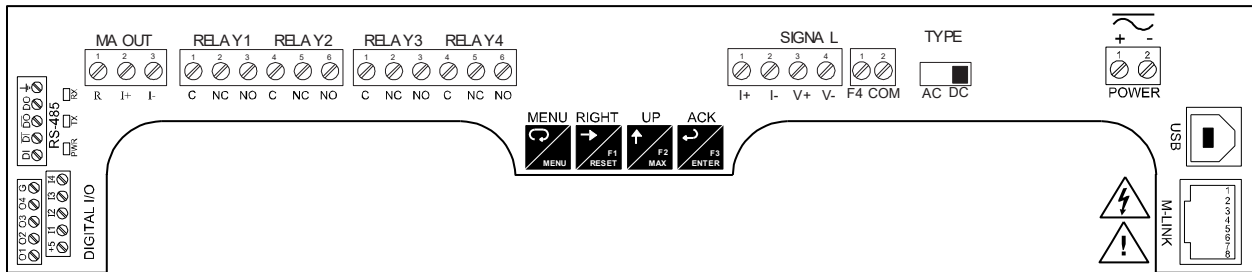

Figure 6. Connector Labeling for Fully Loaded PD2-6400
Power connections are made to a two-terminal connector labeled POWER on Figure 6 on page 12. The meter will operate regardless of DC polarity connection. The + and - symbols are only a suggested wiring convention.
Serial communications connection can be made to the onboard RS485 terminal block or USB connector shown in Figure 6. If RS232 is required, an RS485 to RS232 adapter (PDA7485) may be used. See Ordering Information on page 5 for additional information.
Relay connections are made to two six-terminal connectors labeled RELAY1 – RELAY4 on Figure 6. Each relay's C terminal is common only to the normally open (NO) and normally closed (NC) contacts of the corresponding relay. The relays' C terminals should not be confused with the COM (common) terminal of the INPUT SIGNAL connector.